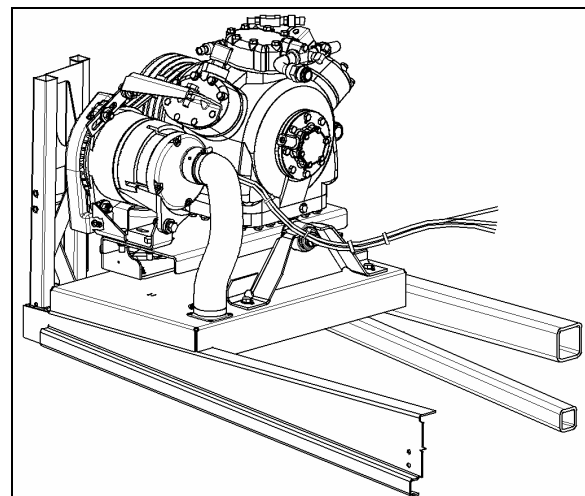

FIGURE 25: BOSCH 24V-140A WITH CENTRAL HVAC SYSTEM
1. Insert a  $\frac{3}{4}$ " socket drive into the automatic belt tensioner opening (Fig. 25).